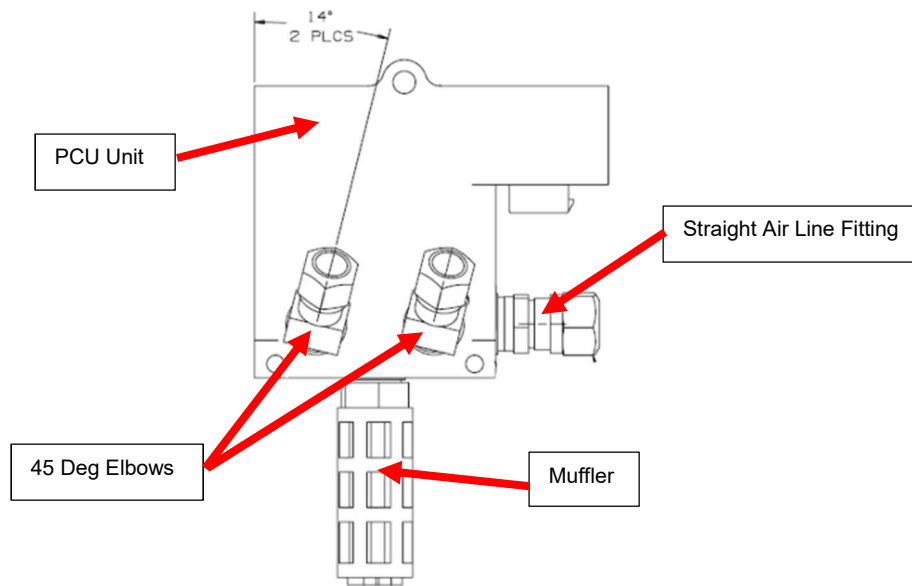

Figure 3: PCU Unit Assembly.
- a. Re-install the two 45 deg elbows in ports one and two using Loctite 567 thread sealant NF P/N 8110442 on the threads. Take care not to block the openings with thread sealant and leave the first two threads free of sealant. Install the fittings finger tight, then apply 1 – 1.5 turns past finger tight and align in the orientation seen in Figure 3.